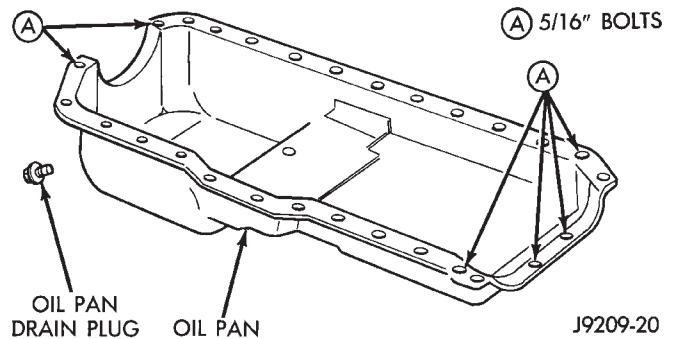

Fig. 3 Position of 5/16 inch Oil Pan Bolts
(3) Slide the one-piece gasket over the dowels and onto the block and timing case cover.
(4) Position the oil pan over the dowels and onto the gasket. If equipped with an oil level sensor, take care not to damage the sensor.
(5) Install the 1/4 inch oil pan bolts. Tighten these bolts to 14 N·m (120 in. lbs.) torque. Install the 5/16 inch oil pan bolts (Fig. 3). Tighten these bolts to 18 N·m (156 in. lbs.) torque.
(6) Remove the dowels. Install the remaining 1/4 inch oil pan bolts. Tighten these bolts to 14 N·m (120 in. lbs.) torque.
(7) Lower the engine until it is properly located on the engine mounts.
(8) Install the through bolts and tighten the nuts.
(9) Lower the jack stand and remove the piece of wood.
(10) Install the engine flywheel and transmission torque converter housing access cover.
(11) Install the engine starter motor.
(12) Connect the exhaust pipe to the hanger and to the engine exhaust manifold.
(13) Install the oil pan drain plug (Fig. 3). Tighten the plug to 34 N·m (25 ft. lbs.) torque.
(14) Lower the vehicle.
(15) Connect negative cable to battery.
(16) Fill the oil pan with engine oil to the specified level.